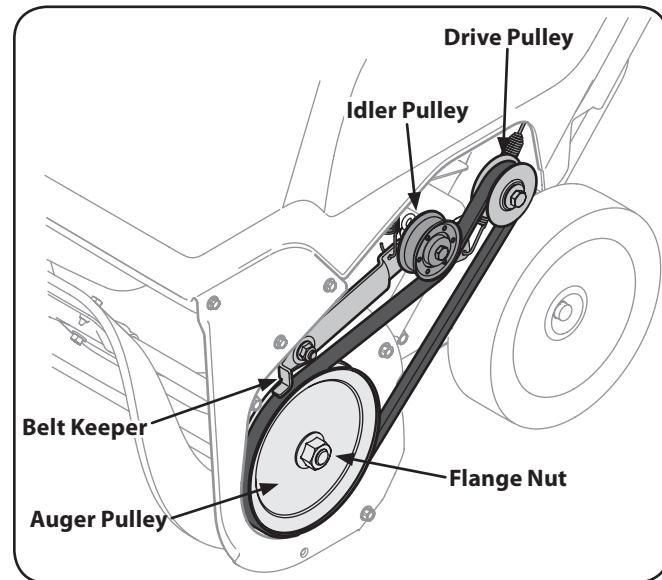

Figure 7-3
To replace the belt follow these instructions and refer to Fig. 7-3:
- Route the belt around the drive pulley and under the idler pulley. See Fig. 7-3.